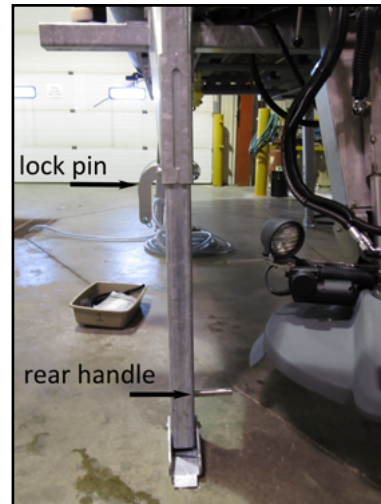

Figure 6 - Rear Leg detail
- a. Remove lock pin as shown in Figure 6.